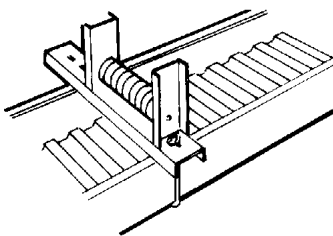

Figure 5.4
- a. On horizontal straight runs, the cables generally ride on rollers mounted in or on the cable tray (See Figure 5.4). These rollers should be properly spaced dependent on the size and weight of the cable to prevent the cable from sagging and dragging in the cable tray during the pull. Contact the cable manufacturer for information regarding proper roller spacing.